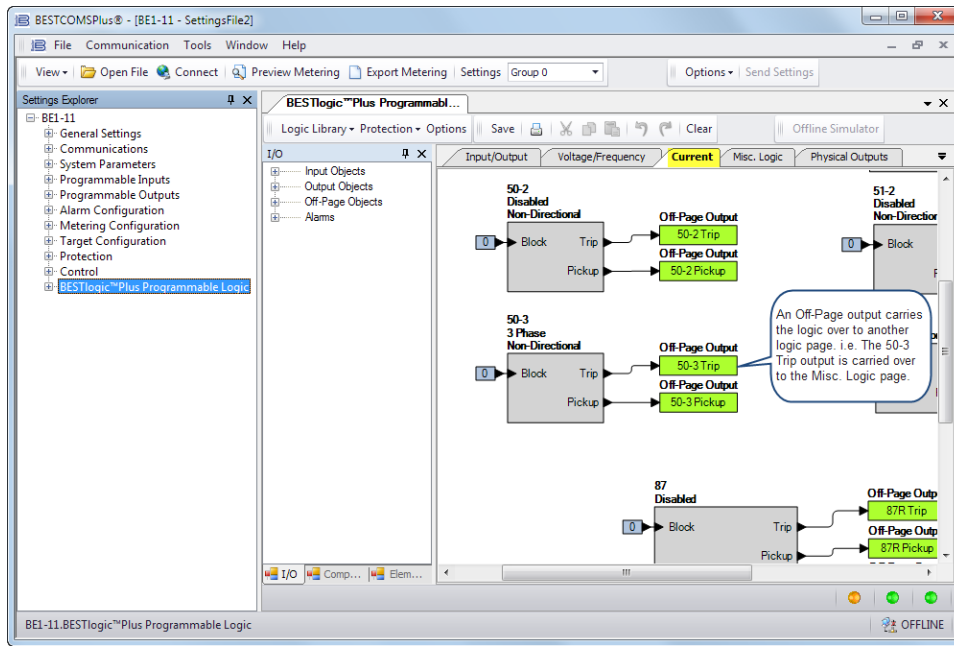

Figure 2-12. BESTlogicPlus Current Page
Step 9: In the Settings Explorer, click BESTlogicPlus Programmable Logic to open the logic diagram. Click the Current tab. See Figure 2-12. Examine the 50-3 element. The Logic 0 connected to the Block input indicates that the 50-3 element is never blocked.